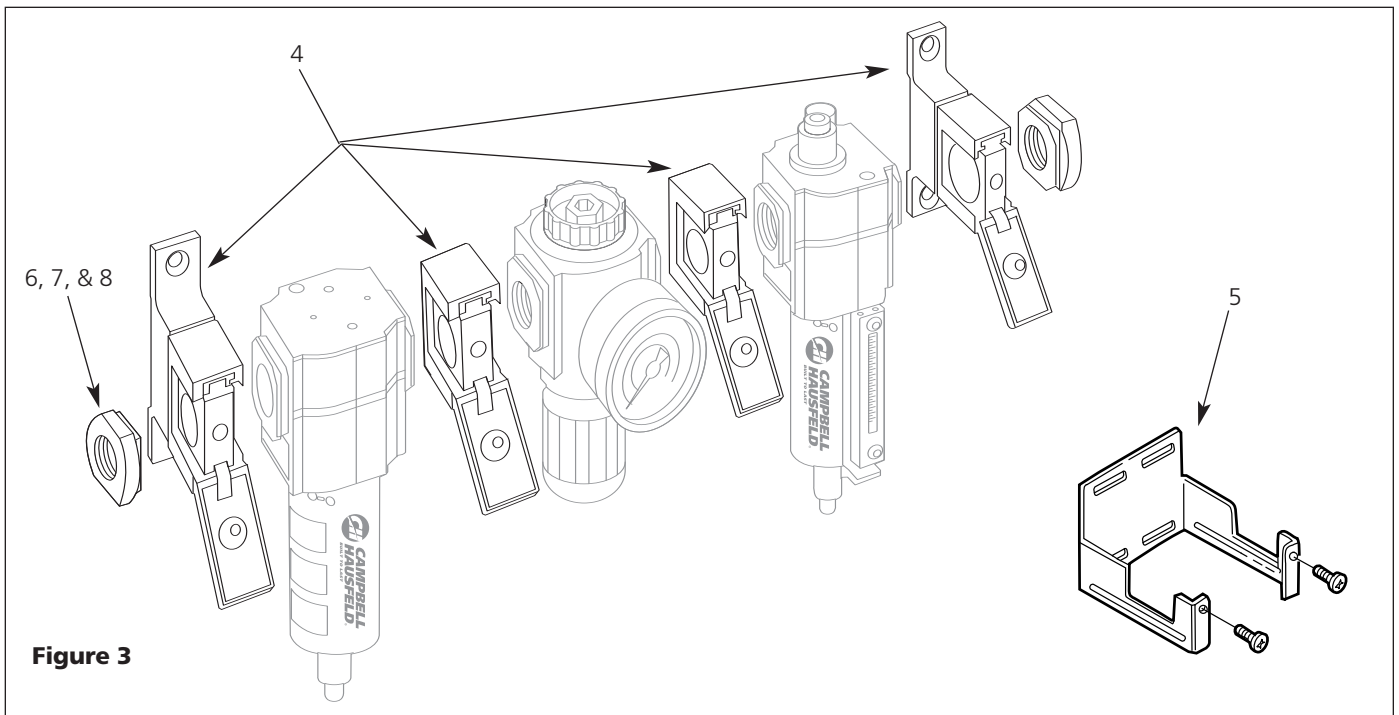

Figure 3
3. Remove plug from plastic bag. Use PTFE thread sealant tape on the threads and install securely in the port opposite the gauge. (See Figure 3.)